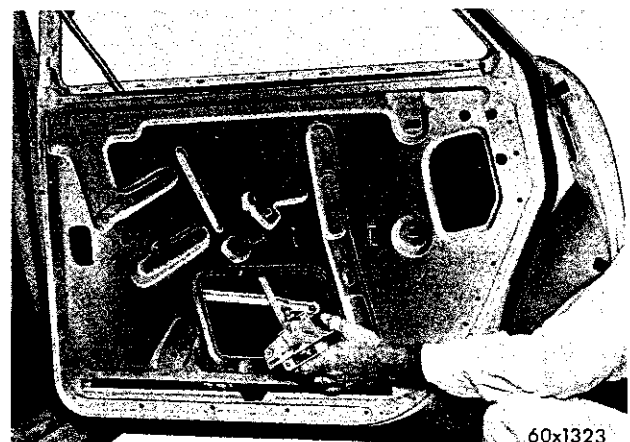

Fig. 50—Removing the Door Lock Assembly
(6) Carefully raise the glass, by means of the regulator crank, being sure the glass follows in the channel from which the felt channel was removed.
(7) With the glass in this position, disconnect the outside handle link at the lock, and the key cylinder link at the lock.
(8) Remove the two screws attaching the remote control assembly to the door inner panel and the four screws holding the lock to the door shut face.
(9) Slide the lock out of the hole in shut face of the door and rotate the lock to disconnect the remote control link at the lock. Remove both lock and remote control from the door (Fig. 50).